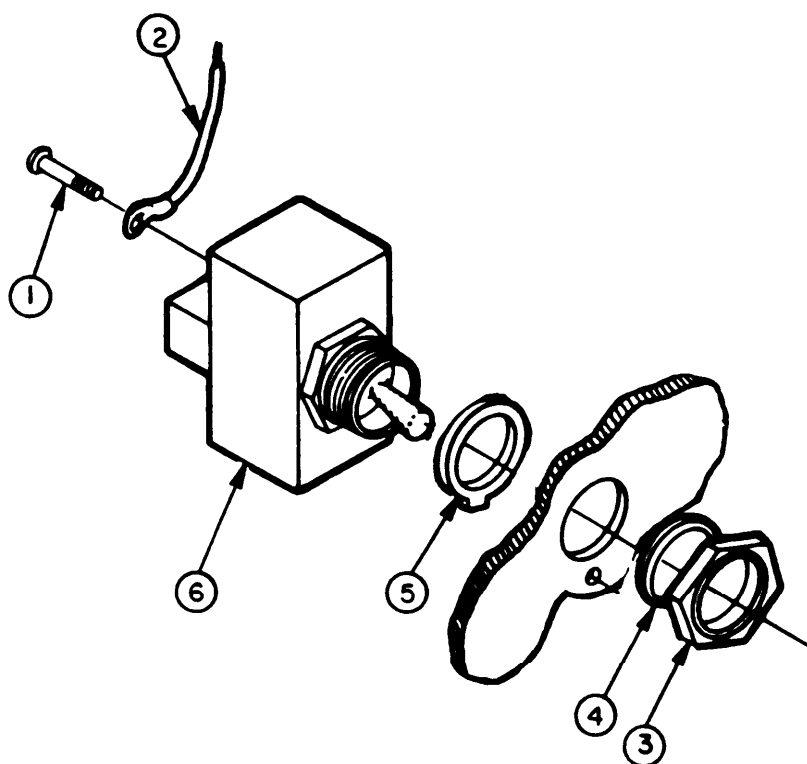

Figure 2-64. Toggle Switch
b. Removal of Toggle Switch. (Figure 2-64)
g. Installation, Toggle Switch. (Figure 2-64)
- (1) Install locking ring (5) on switch (6).
- (2) From inside control box assembly, insert switch (6) and locking ring (5) through mounting hole with anti-rotation key/slot on the bottom (figure 2-64).